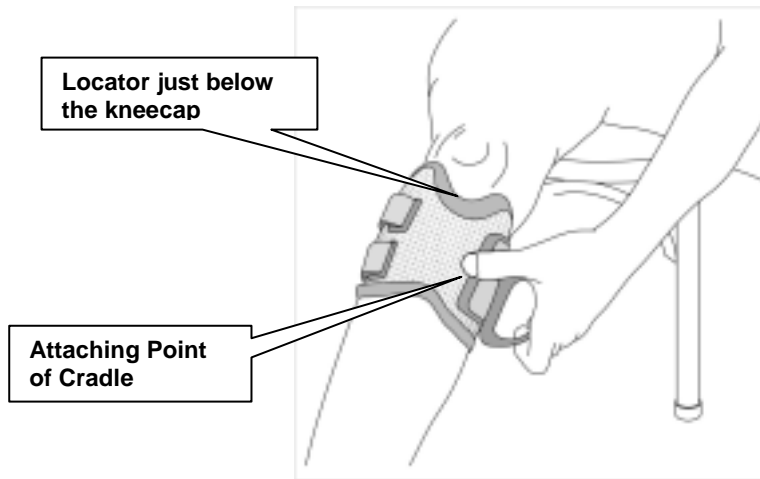

Figure 7: Fastening the Strap (First Method)
1. With the orthosis in place as in Figure 7, carefully grasp the handle of the elastic belt with the fingers of the *opposite* hand. In Figure the orthosis is on the right leg, so the handle is grasped by the left hand.